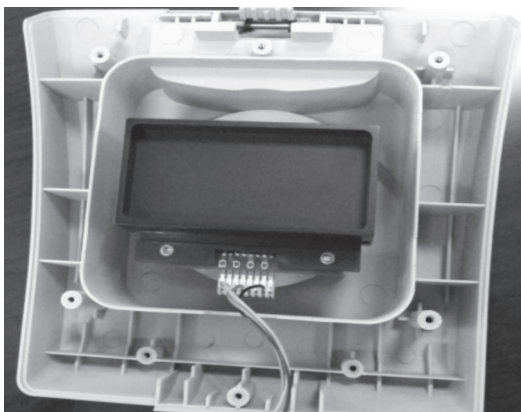

Fig.15
2.4.4 Remove the inner cover and see the hot lid inner part. As Fig.15